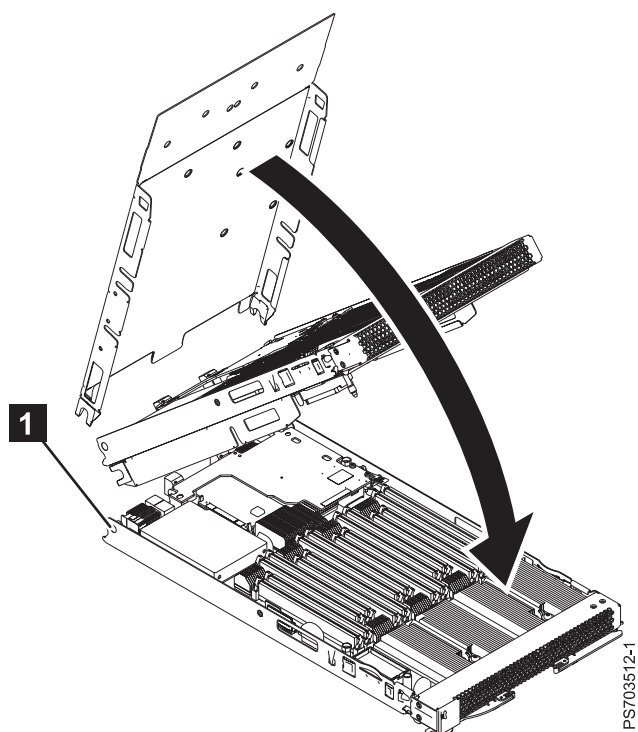

Figure 24. Replacing the expansion unit
1. Lift the expansion unit above the blade server base unit and engage the circular pivot bearings onto the cover pins (as shown by **1** in Figure 24 on page 239) of the base unit.